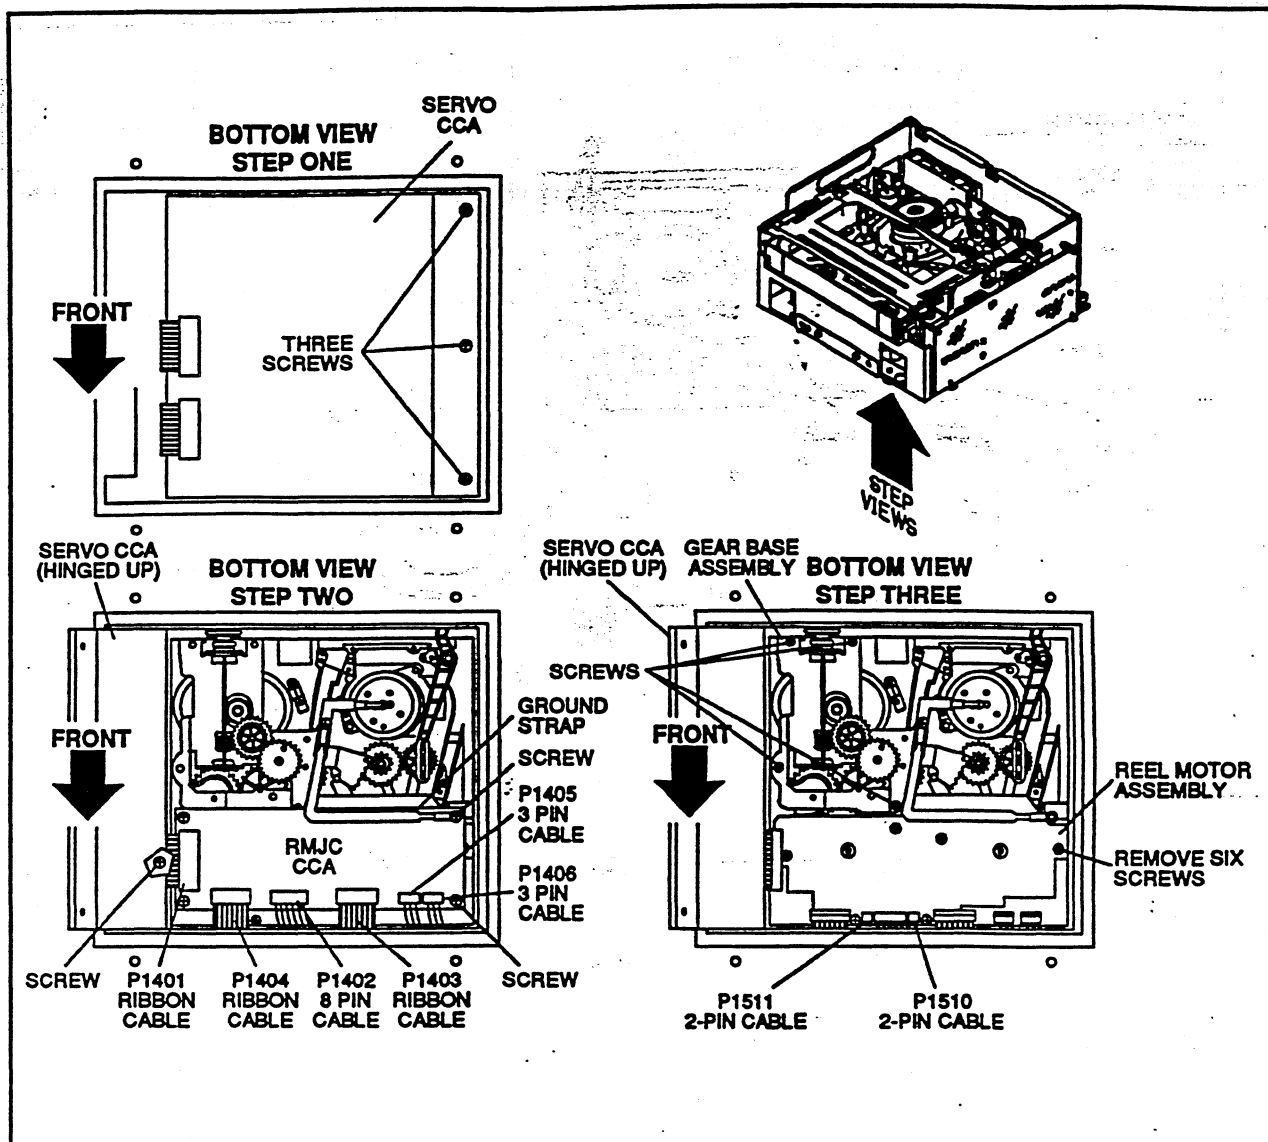

Figure 2. Lubrication Access
12. Remove three screws (Figure 2, step 1) and carefully lift Servo Circuit Card (hinged).
15. Remove four screws (refer to Figure 2 step 3) and rotate the gear base to access the gears. **DO NOT REMOVE THE GROUND STRAP SCREW.**